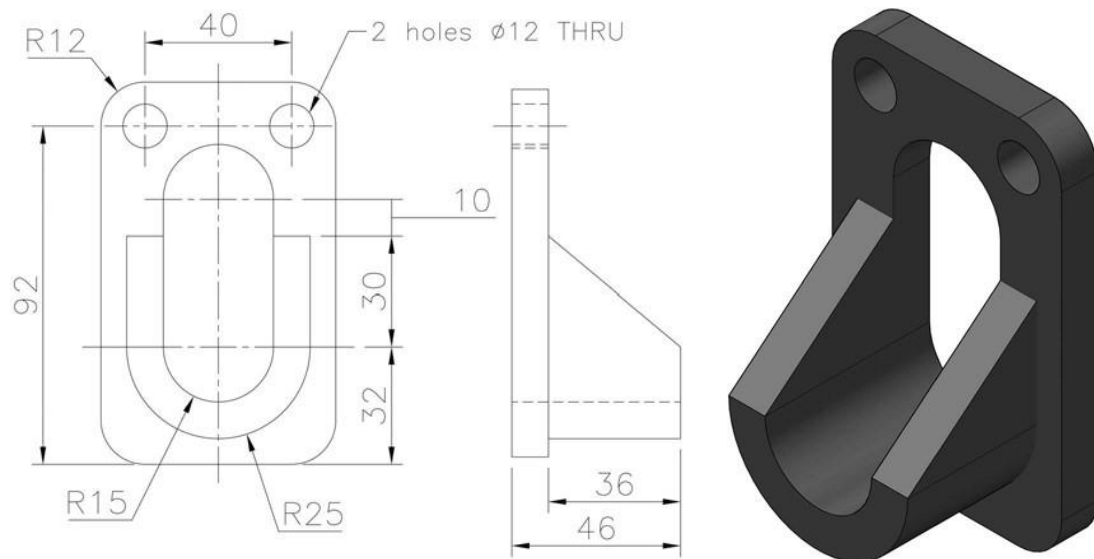

Figure 3 (a): Spout
a) **Figure 3 (a)** shows a model of a spout. Create a part model of the component using the two First Angle projection views given. (7 marks)